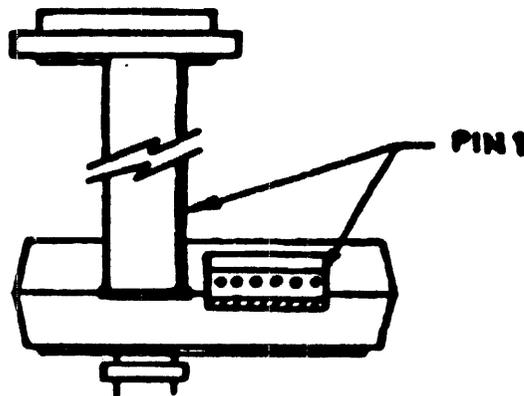

Figure 1 Molex Pin Orientation.
- Users may wish to use their own power supply; the pin-out from the emulator is as follows. Numbering from right to left as shown in Figure 1 below.